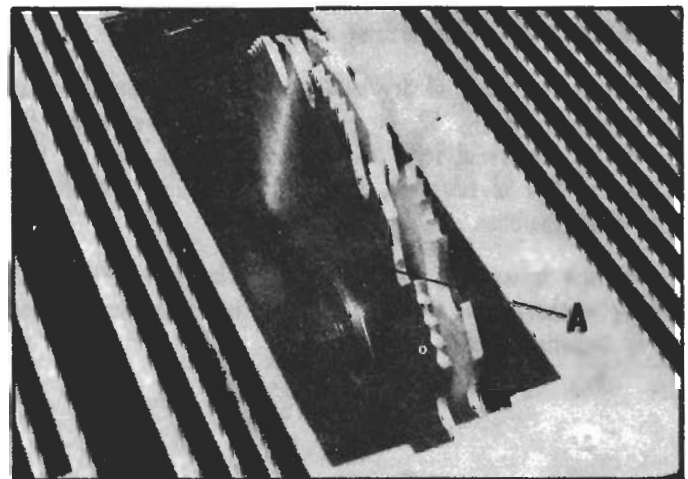

Fig. 49
The blade guard, spreader and anti-kickback pawls assembly cannot be used when dadoing and must be removed from the saw as shown in Fig. 49. Loosen two nuts that hold blade guard and spreader to spreader bracket and slide spreader upward. Do not disturb alignment of spreader bracket. The dado head set (A) Fig. 49, is assembled to the saw arbor in the same manner as the saw blade. An accessory dado head table insert must be used in place of the standard table insert.